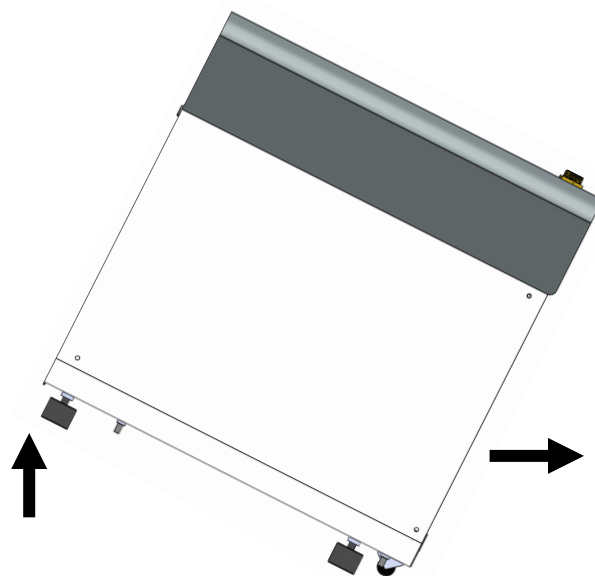

Fig 11. Shoebbox NX rear wheels
- Tilt the unit to engage the rear wheels and roll into place. Using the adjustable feet, level the unit. (fig 11)